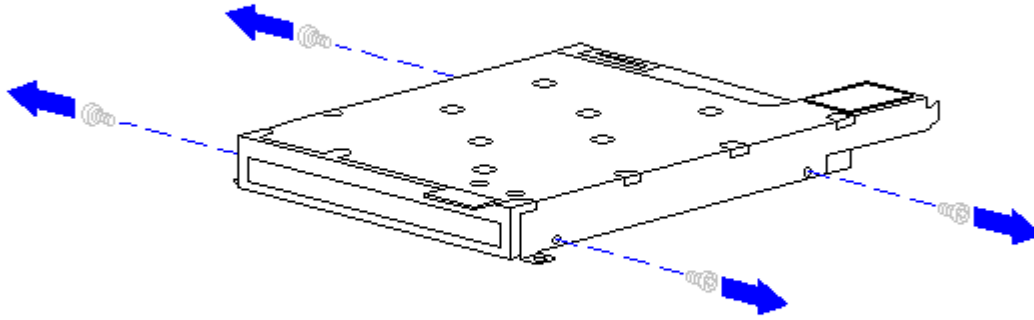

Figure 3-44. Removing the Diskette Drive Bracket Screws (All Models)
2. Remove the diskette drive from the bracket by removing the four screws from both sides of the bracket (Figure 3-44).